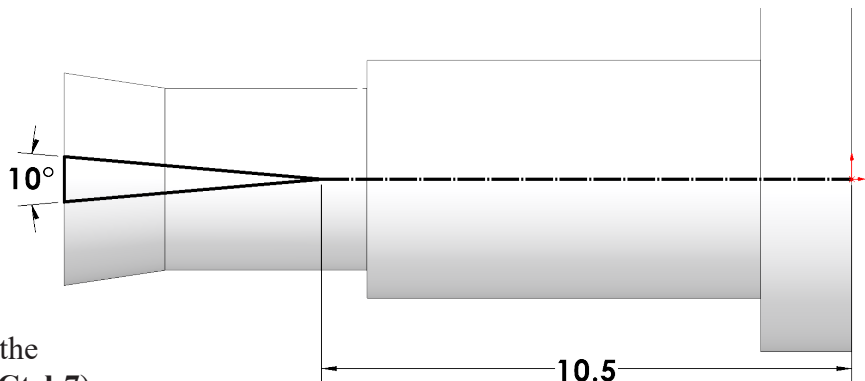

Fig. 9
Step 7. Add dimensions, **Fig. 9**.